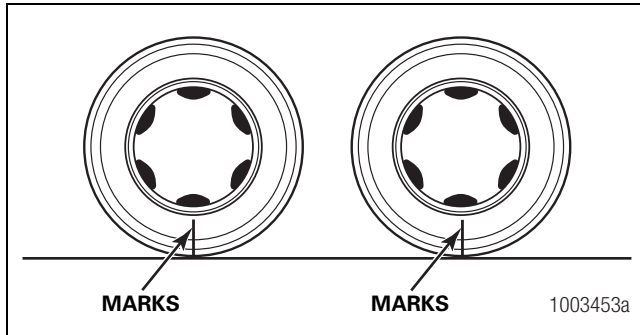

Figure 4.16
- Mark the forward and rear tires at identical relative positions. Figure 4.16.